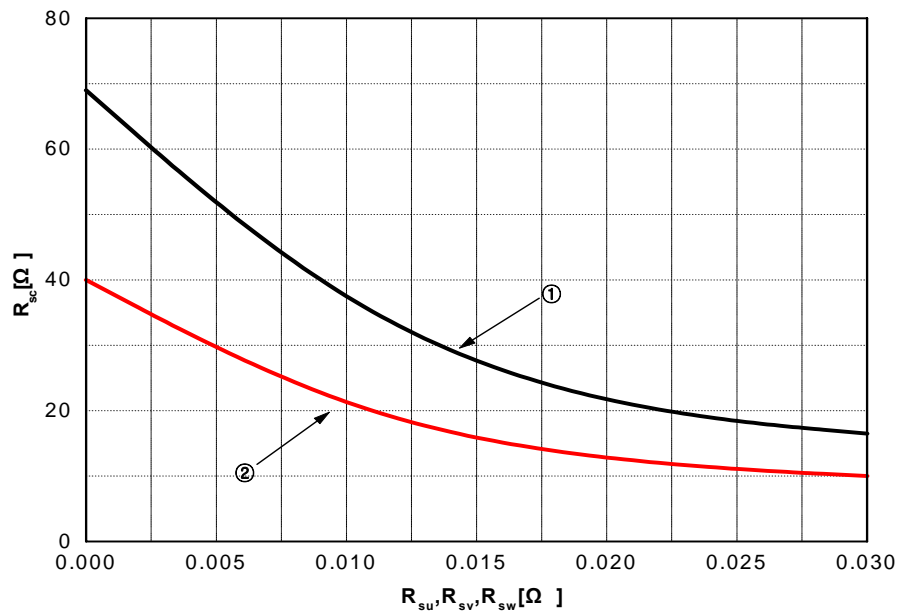

Fig. 6. R_{SC} Variation by change of Shunt Resistors (R_{SU} , R_{SV} , R_{SW}) for Short-Circuit Protection
| Sensing Voltage of IGBT Current | V_{SEN} | $R_{SC} = 40\ \Omega$, $R_{SU} = R_{SV} = R_{SW} = 0\ \Omega$ and $I_C = 75\text{A}$ (Fig. 6) | 0.45 | 0.51 | 0.56 | V |
| Resistance of Thermistor | R_{TH} | @ $T_{TH} = 25^\circ\text{C}$ (Note Fig. 6) (Note 7) | - | 50 | - | $\text{k}\Omega$ |
| | | @ $T_{TH} = 100^\circ\text{C}$ (Note Fig. 6) (Note 7) | - | 3.4 | - | $\text{k}\Omega$ |
- Short-circuit current protection is functioning only at the low-sides. It would be recommended that the value of the external sensing resistor (R_{SC}) should be selected around $40\ \Omega$ in order to make the SC trip-level of about 75A at the shunt resistors (R_{SU}, R_{SV}, R_{SW}) of $0\ \Omega$. For the detailed information about the relationship between the external sensing resistor (R_{SC}) and the shunt resistors (R_{SU}, R_{SV}, R_{SW}), please see Fig. 6.